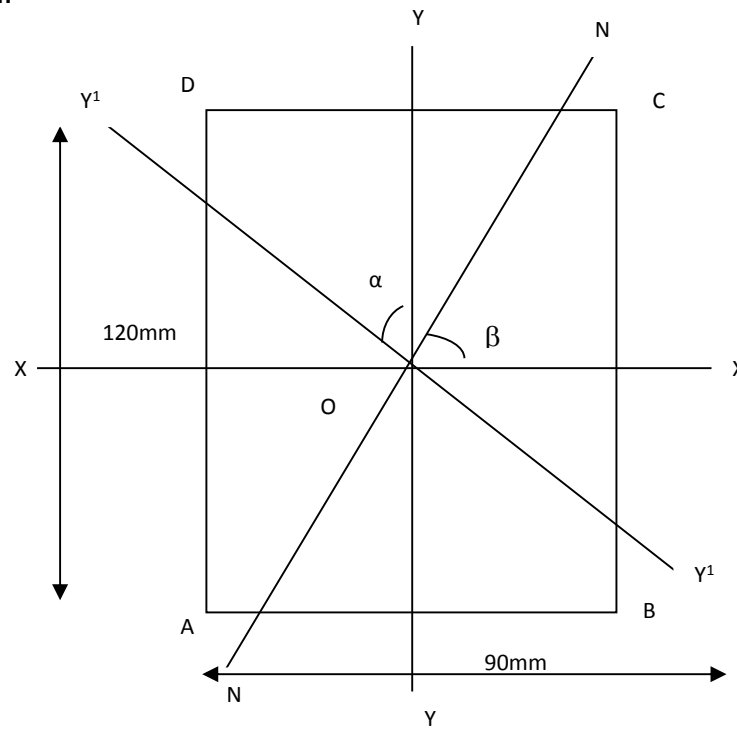

Figure.1
7. A beam of rectangular section 90mm x 120mm deep as shown in figure 1 is subjected to a bending moment of 1000N.m, the trace of the plane of loading being at right angles to one of the diagonals. Locate the Neutral axis of the section and determine the maximum bending stress induced in the section.